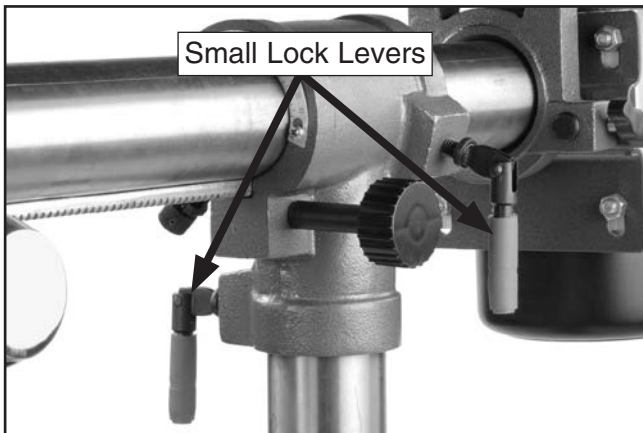

Figure 19. Small lock levers installed.
15. Screw two small lock levers into each side of horizontal column bracket (see **Figure 19**).